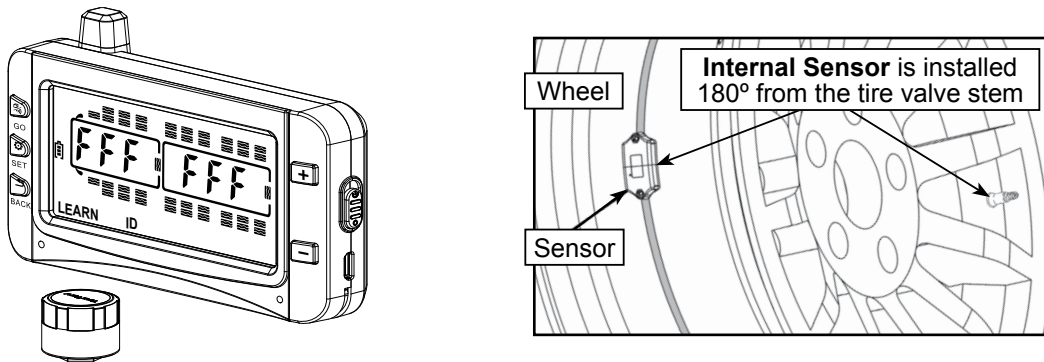

Figure 4: Recommended Sensor Position for Automatic Code Learning
2. Quickly push and release the **SET** button. The first tire on the display will blink. If programming a different tire, press the **+** button to move to the correct tire. Push the **SET** button again and **FFF FFF** will flash. Hold the desired sensor for that tire position near the bottom left side of the Display. For internal sensors pre-installed on tire and rim assembly, hold display near the tire 180° from valve stem and then push the **GO** button. See *Figure 4*.
4. Use the **+** button to move to the next tire position to be programmed. Push and release the **SET** button and **FFF FFF** will flash. Place the sensor for that tire position at the bottom of the display and press the **GO** button to capture the sensor code. See *Figure 4*. Press **SET** again to save. Continue this process for each tire position/sensor.